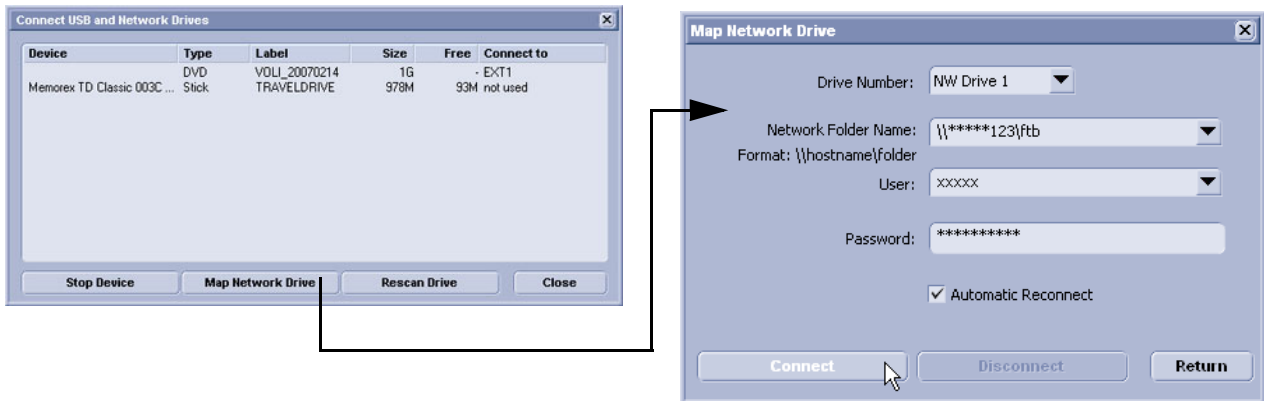

Figure 8-4 Map Network Drive setting
- SW version below 6.2.x only: check current network drive connection (Figure 8-4)
- 2.) In the displayed "Connect USB and Network Drives" window, select the **MAP NETWORK DRIVE** button (Figure 8-4 below, left image) to open the dialog (Figure 8-4 below, right image).
26.) In case that Application software was below SW 6.2.x (prior to system upgrade), check and match Network drive settings (see: Figure 8-4 on page 8-6) according to the printout.